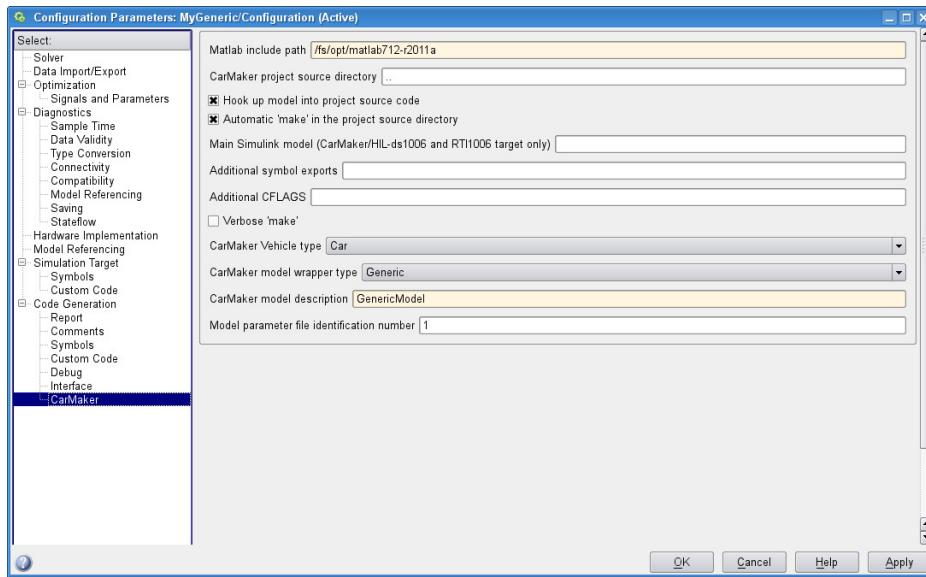

Figure 8.10: Real-Time Workshop, CarMaker code generation options
- For single processor setup, in the field *Main Simulink Model* (see Figure 8.10), the name of the CarMaker Model (e.g., generic) needs to be entered.
In case, the option *Hook up model into project source code* was not activated in the CarMaker code generation settings (see Figure 8.10), the following changes to the User.c file in the *src* folder of your CarMaker project directory need to be done for the logical model integration: